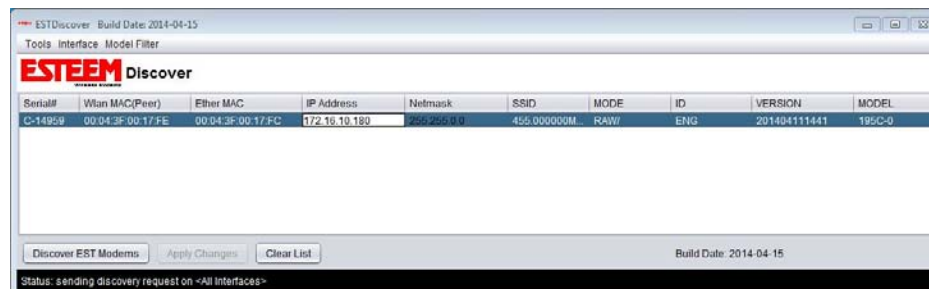

Figure 4: ESTeem Discovery Utility
- The ESTeem 195C/M/H will be displayed (Figure 4). If the ESTeem 195C/M/H is not on the same IP subnet as the computer, double click on the IP, Netmask or Gateway and make the necessary changes. Press the *Apply Changes* button when complete.